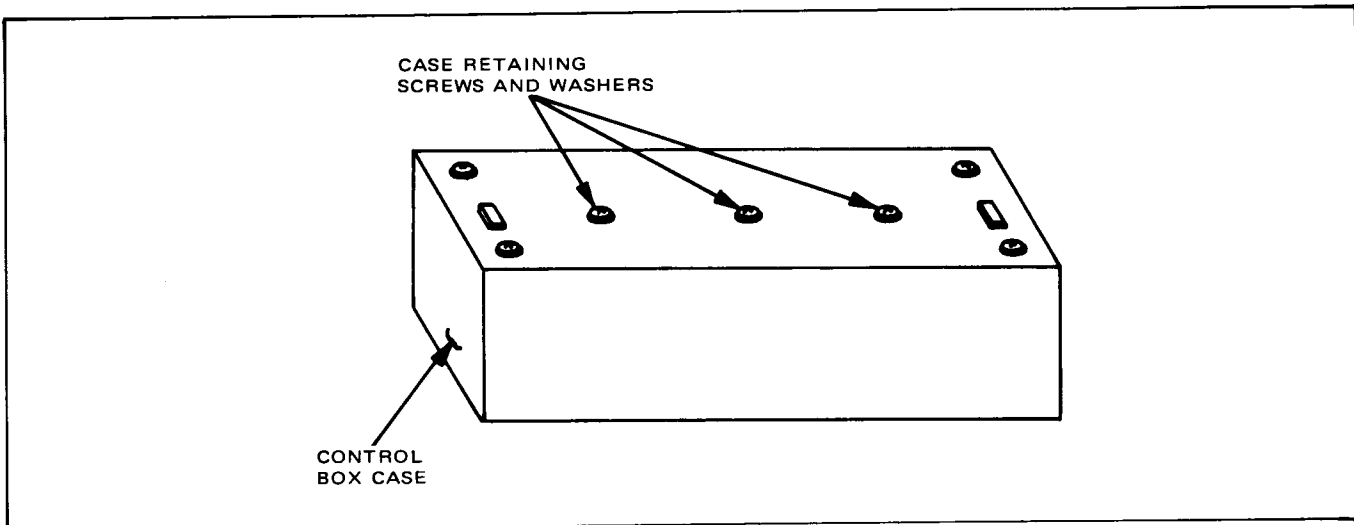

Figure 5-20. Control Box Case Removal
2. Remove three 6/32 retaining screws and No. 6 washers that secure the control box assembly case and remove the case (see Figure 5-20).
2. Reinstall the control box case on the control box PWAs, and secure using three 6/32 case-retaining screws and washers (see Figure 5-20).